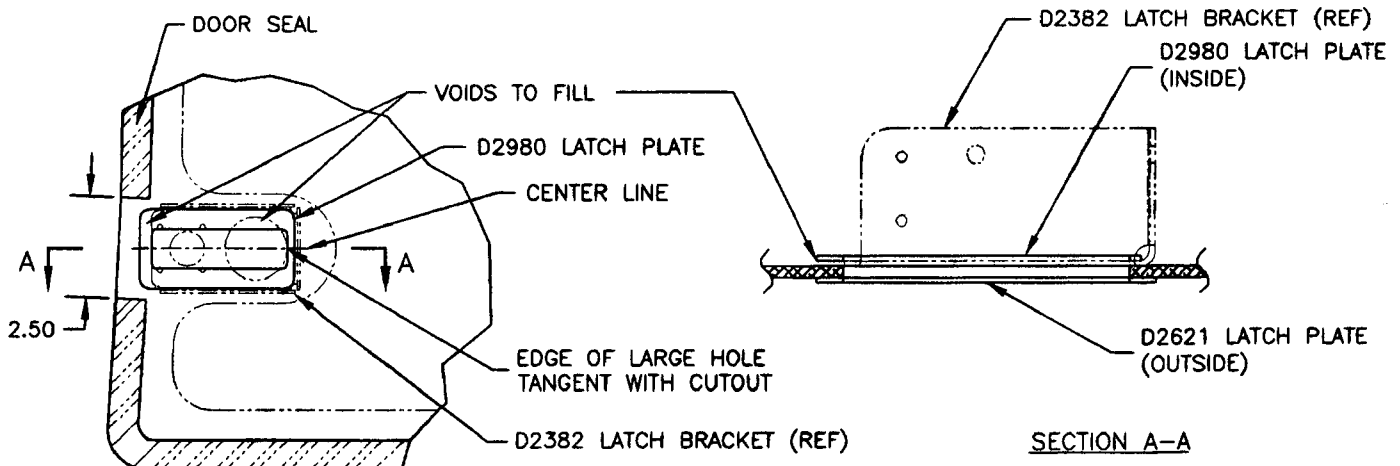

FIGURE 1: TYPICAL DOOR CUTOUT
2. REMOVE 2.5" (MAX) OF SEAL FROM EDGE OF THE DOOR PER FIGURE 1.
4. LINE UP THE INSIDE EDGE OF THE D2980 LATCH PLATE WITH THE EDGE OF LARGER LATCH HOLE AS SHOWN IN FIGURE 1. MAKE SURE THE D2980 LATCH PLATE IS CENTERED ON THE LINE CREATED AT STEP 3.
8. INSTALL D2621 LATCH PLATE OUTSIDE AND D2980 LATCH PLATE INSIDE OF THE DOOR AS SHOWN IN SECTION A-A USING 5 MIN. EPOXY OR PRC. ENSURE THAT THE LATCH PLATES LINE UP WITH THE RECTANGULAR CUTOUT FOR THE D2586 LATCHES. CLAMP LATCH PLATES IN PLACE. FILL THE VOID BETWEEN THE D2621 AND D2980 LATCH PLATES AS SHOWN IN FIGURE 1 WITH 5 MIN. EPOXY OR PRC. WIPE AWAY EXCESS EPOXY OR PRC FROM ALL AROUND THE LATCH PLATE INSTALLATION. ALLOW AT LEAST 15 MIN. BEFORE REMOVING CLAMPS AND PROCEEDING TO THE NEXT STEP.